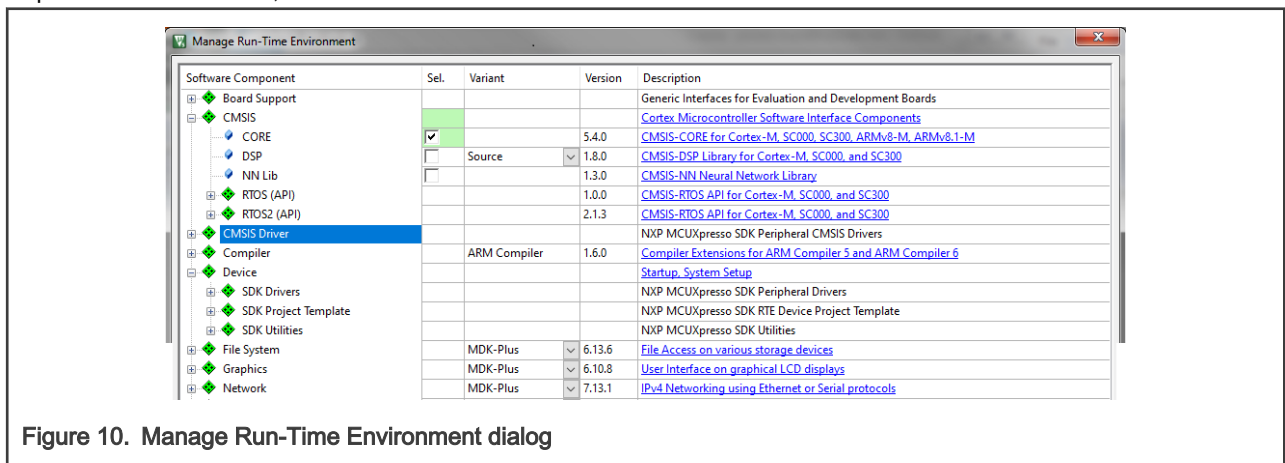

Figure 10. Manage Run-Time Environment dialog
8. In the next dialog, expand the Device node, and tick the box next to the Startup node. See Figure 10.